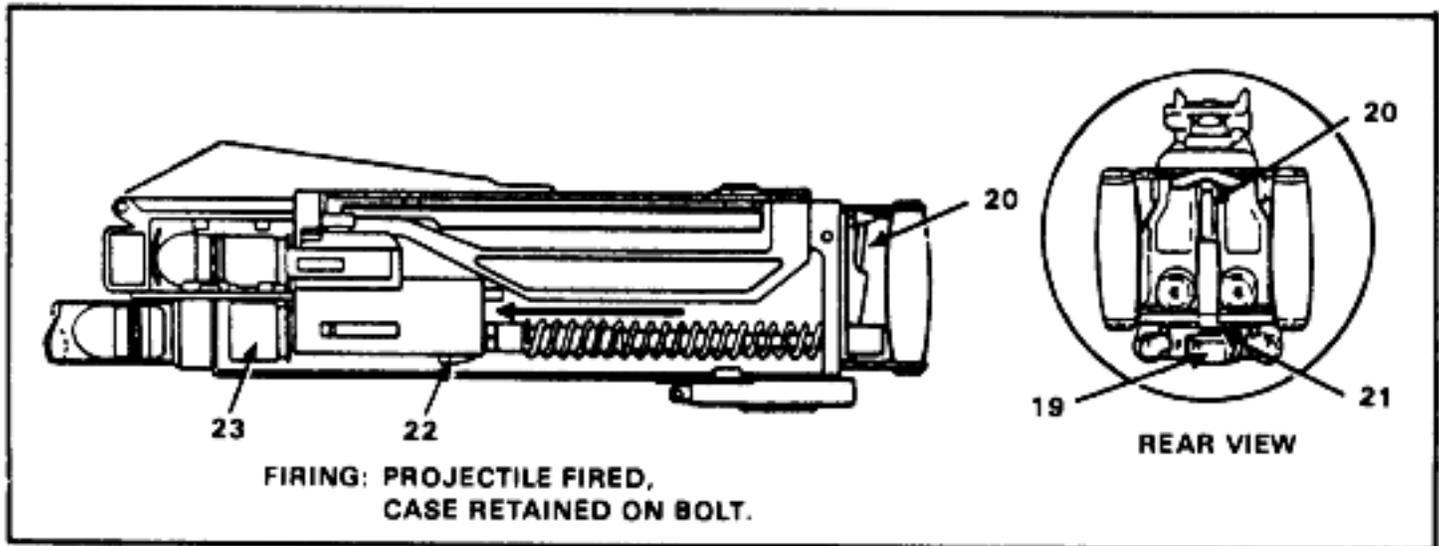

Figure 2-28. Firing cycle.
d. Firing Cycle. Pressing the trigger depresses the tip of the receiver sear (21). The receiver sear disengages the bolt sear (22), which releases the bolt forward under spring pressure with a round in the bolt fingers. The cocking lever hits the forward end of the left receiver rail slot, forcing the lever to the rear. The bolt sear hits a plate in the bottom of the receiver, which pushes the firing pin sear up to release the firing pin. A combination of the bolt's inertia and pressure from the firing pin spring drive the firing pin forward. The tip of the firing pin detonates the primer. The round is not completely inside the chamber at the moment the weapon is fired. The cartridge case, held by the bolt fingers, protrudes from the chamber (23). The explosion forces the projectile down the bore (Figure 2-28).